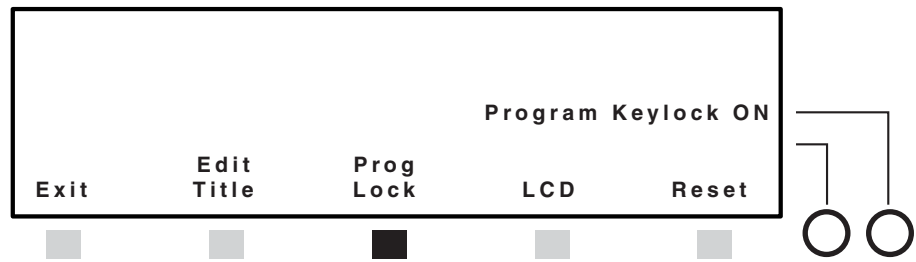

Figure 3-21 — Setting the program keylock
1. From the default menu, press the Menu button, then the Next button, then the Prog Lock button (figure 3-21).